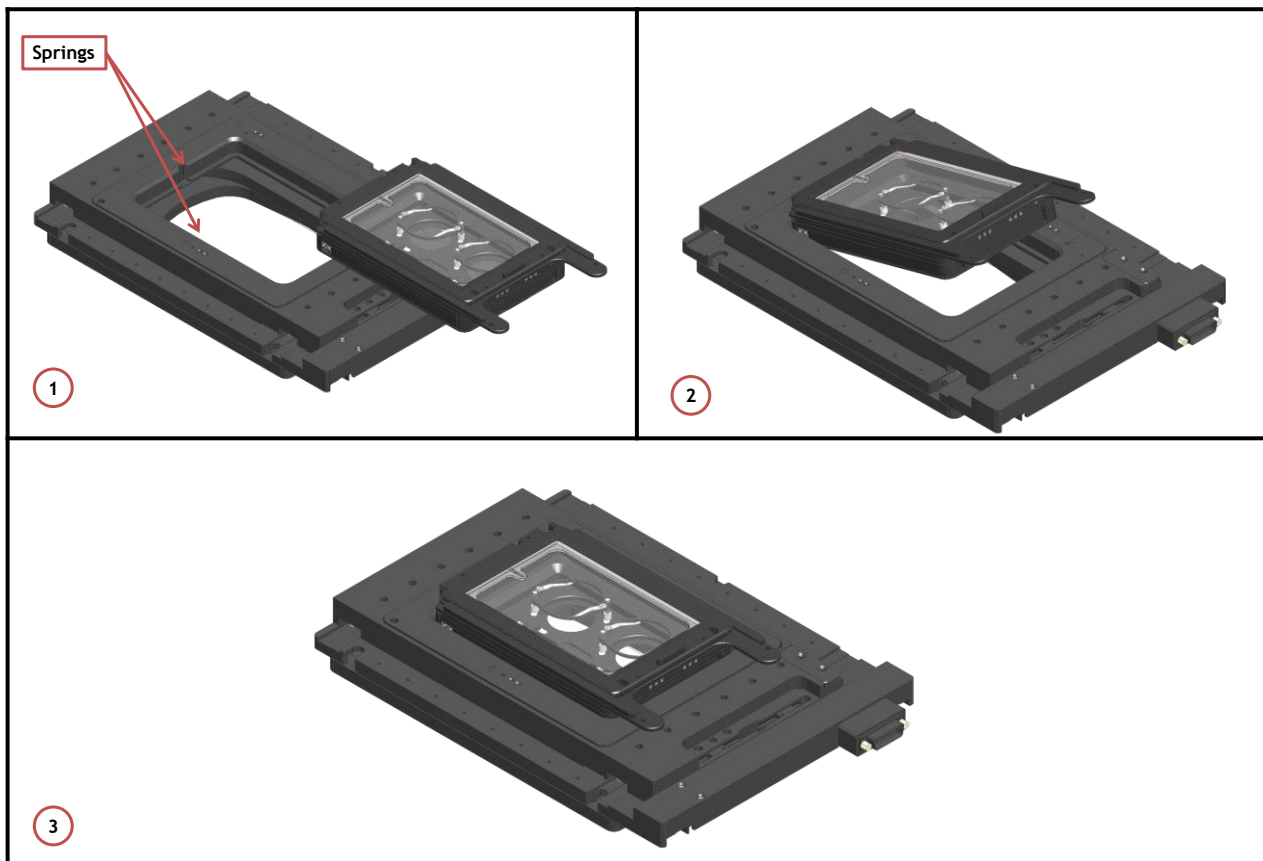

Figure 23. Connection of the Chamber with XY Stage
H301-K-FRAME fits on the XY Stage without any screws. To fix the chamber on the stage, follow the steps shown in Figure 23.
1. Place the chamber on the stage (See Image 1 of Figure 23).
2. Incline the chamber and slide it in direction of the springs until it snaps into the housing. (See Image 2 of Figure 23).
3. Image 3 of Figure 23 shows the chamber fitted on the XY Stage.